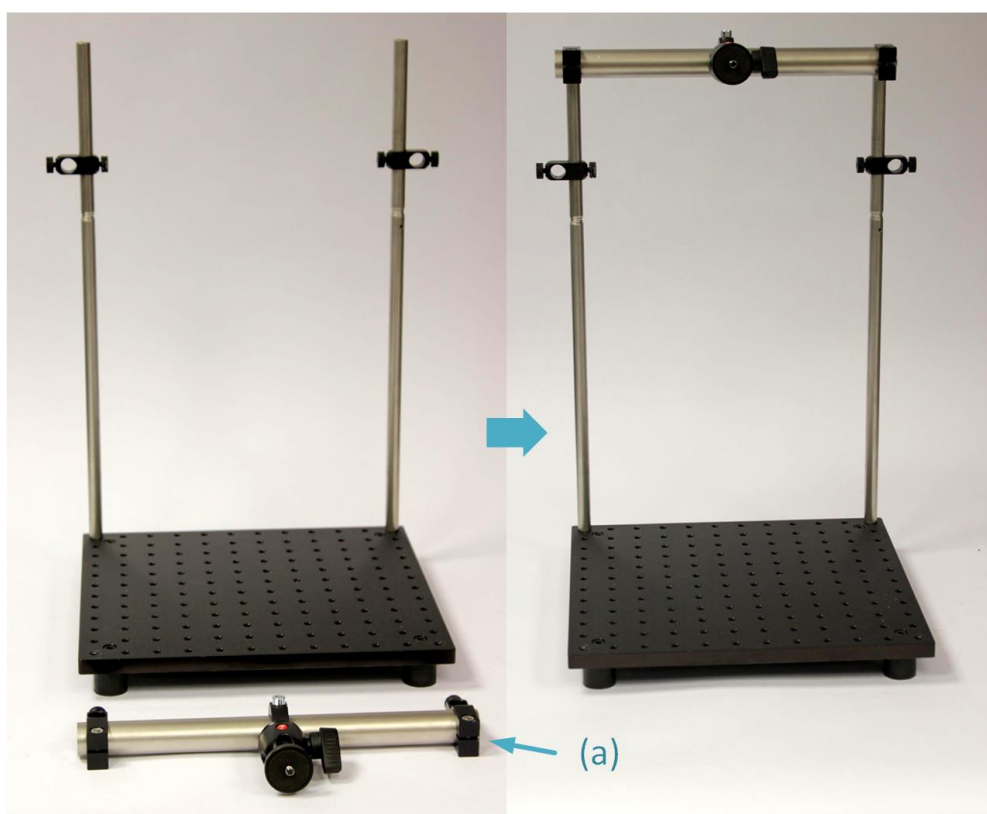

Figure 10. Assembly of top horizontal post with tripod head on the vertical posts (Step 3.5)
Step 3.5 Mount the top horizontal post on the vertical posts (Figure 10)
- a. Slide the assembled top post (from prev. step) on to the vertical posts and fix them on the top edge, as shown in Figure 10.